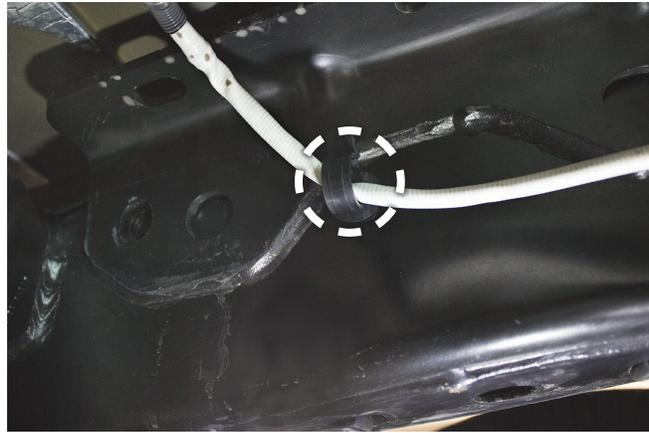

Fig. 29
- To install the passenger's (right) side upper brace (F), locate the clip (circled in Fig. 29) that holds the wiring harness for the O₂ sensor. Remove and discard the clip, as it will no longer be needed.